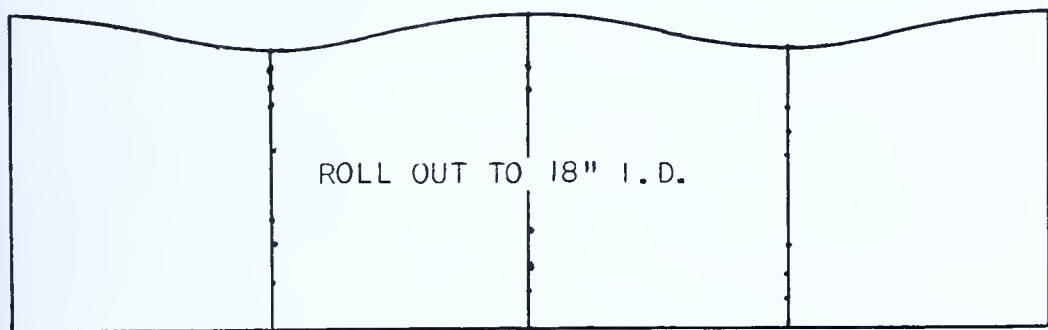

FIG. 281 — *The Completed Template*
20. With the tin snips cut the template paper along the curved line, along the straight base line *m-n*, and along two outer lines. The template will have the appearance of Fig. 281.